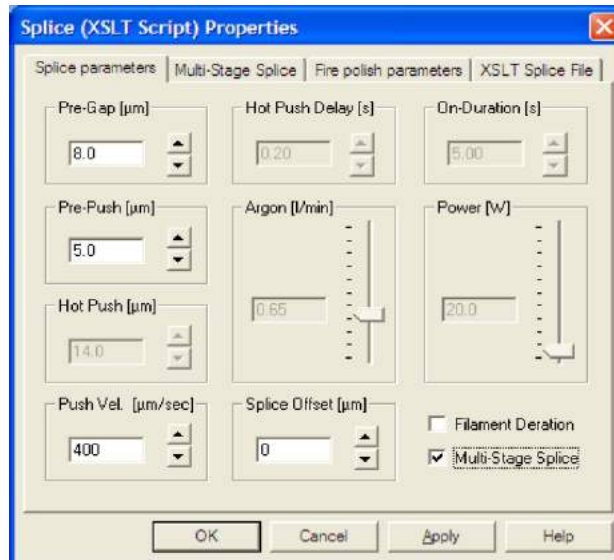

Figure 29 **Activating Multi-Stage Splice**
- The normal default is for Multi Stage Splice to be disabled. Check the Multi Stage Splice check box as shown in Figure 29.